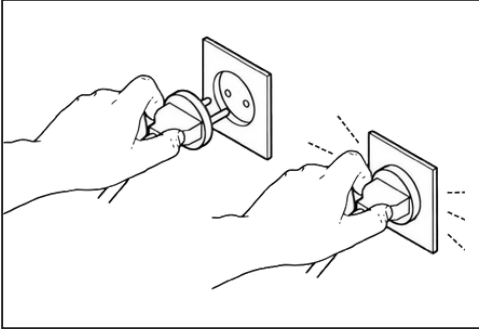

figure 1
- Before use check that the backing pad is correctly attached and tightened.Connect the power cord to a grounded outlet(110-120V/220-240V,50/60Hz). - see figure 1